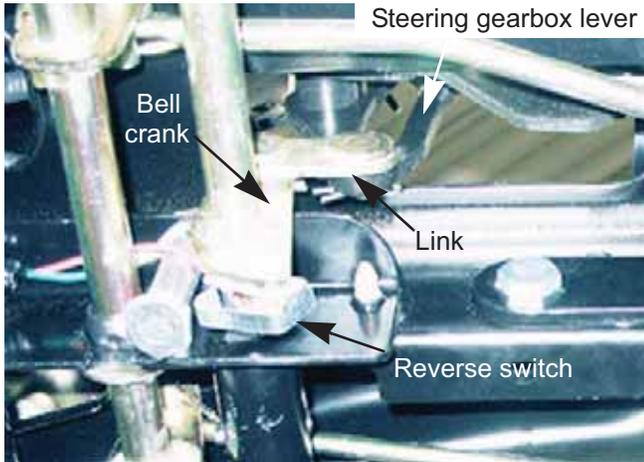

Figure 5A.14
2. Disconnect the link between the steering gearbox and the bell crank on the drive pedal shaft. See Figure 5A.14.